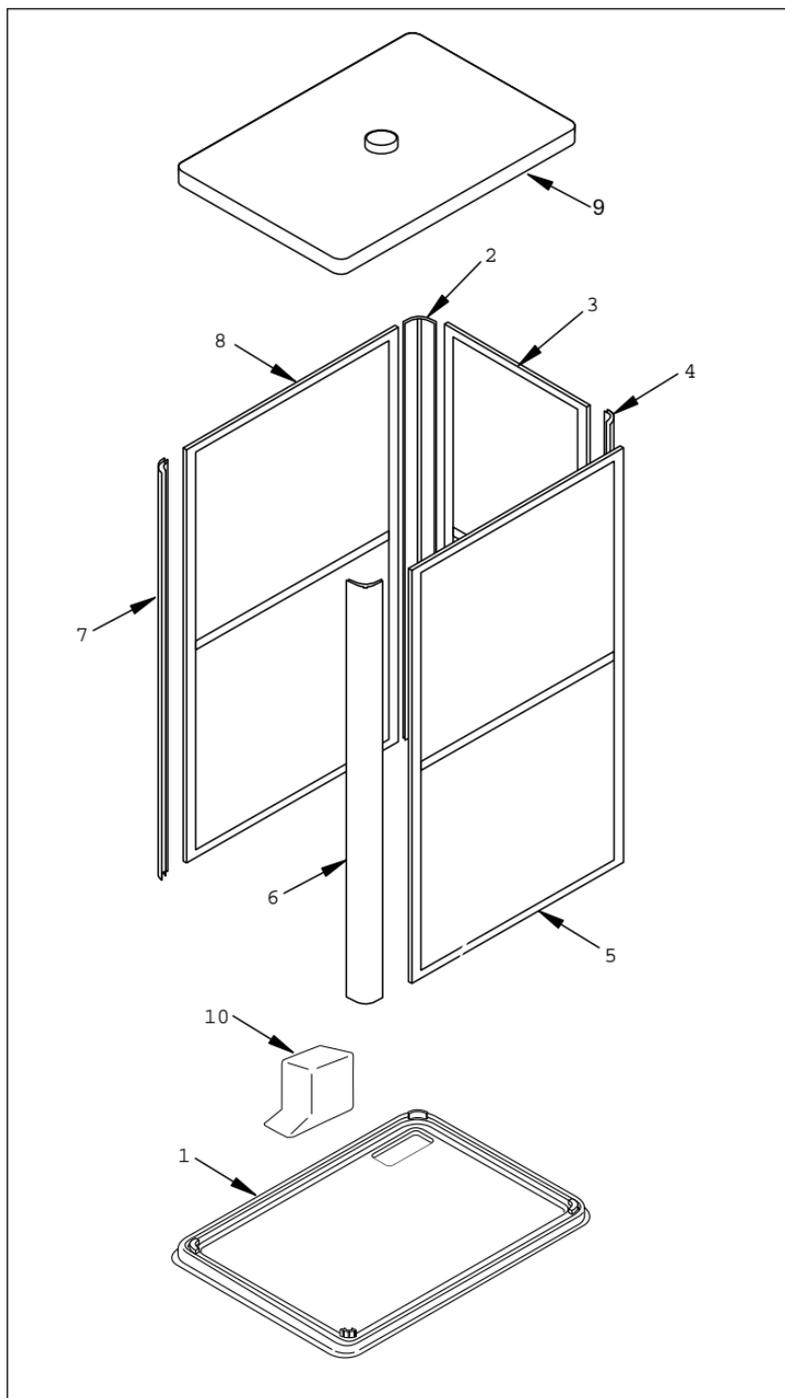

Fig 3
2. Using battens and timber create a sub floor that is level with the top of the joists, as Fig 3.
# Installation Details (use Fig 3 with instructions)